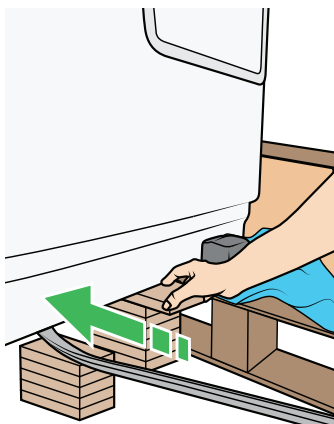

Figure 18
5. Raise the bathtub with the help of a crowbar and two stacks of woodblocks to lift it off the pallet. See Figure 18.